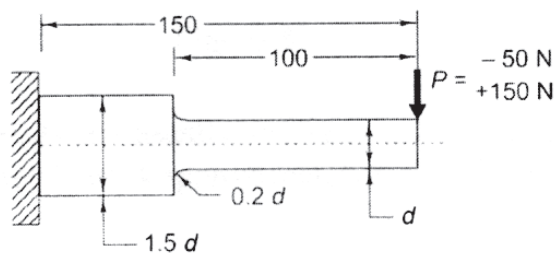

Figure 3
- Q3)** A cantilever beam made of cold drawn steel 40C8 ($S_{ut} = 600 \text{ N/mm}^2$ and $S_{yt} = 380 \text{ N/mm}^2$) is shown in Fig. 3. The force 'P' acting at the free end varies from -50 N to $+150 \text{ N}$. The expected reliability is 90% and the factor of safety is 2. The notch sensitivity factor at the fillet is 0.9. Determine the diameter 'd' of the beam at the fillet cross-section. Assume surface finish, size, reliability and theoretical stress concentration factors are 0.77, 0.85, 0.897 and 1.44 respectively. **[10]**